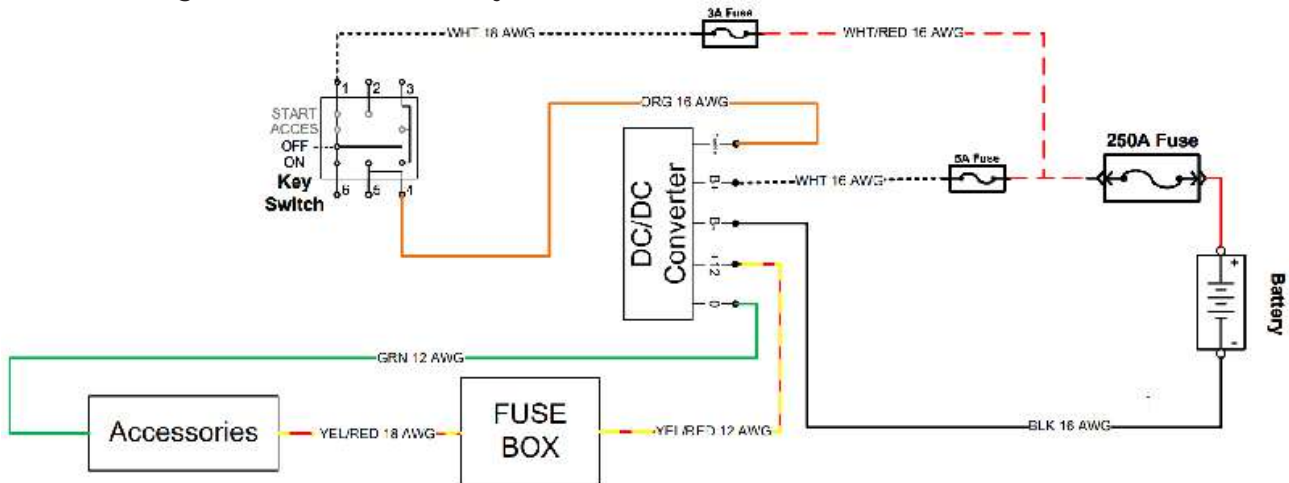

Figure 87. DC/DC Converter Input and Output Terminals Inspection.
2. 1. Check for the presence of voltage between the positive terminal (**B+**) (White Wire) and the negative terminal (**B-**) (Black Wire) of the DC/DC converter (As shown in Figure 87).
2. 2. Check for the presence of voltage between the orange wire and the negative terminal (**B-**) (Black Wire) of the DC/DC converter (As shown in Figure 87).
3. 1. Check for the presence of voltage between the yellow/red wire and the green wire of the DC/DC converter (As shown in Figure 87).